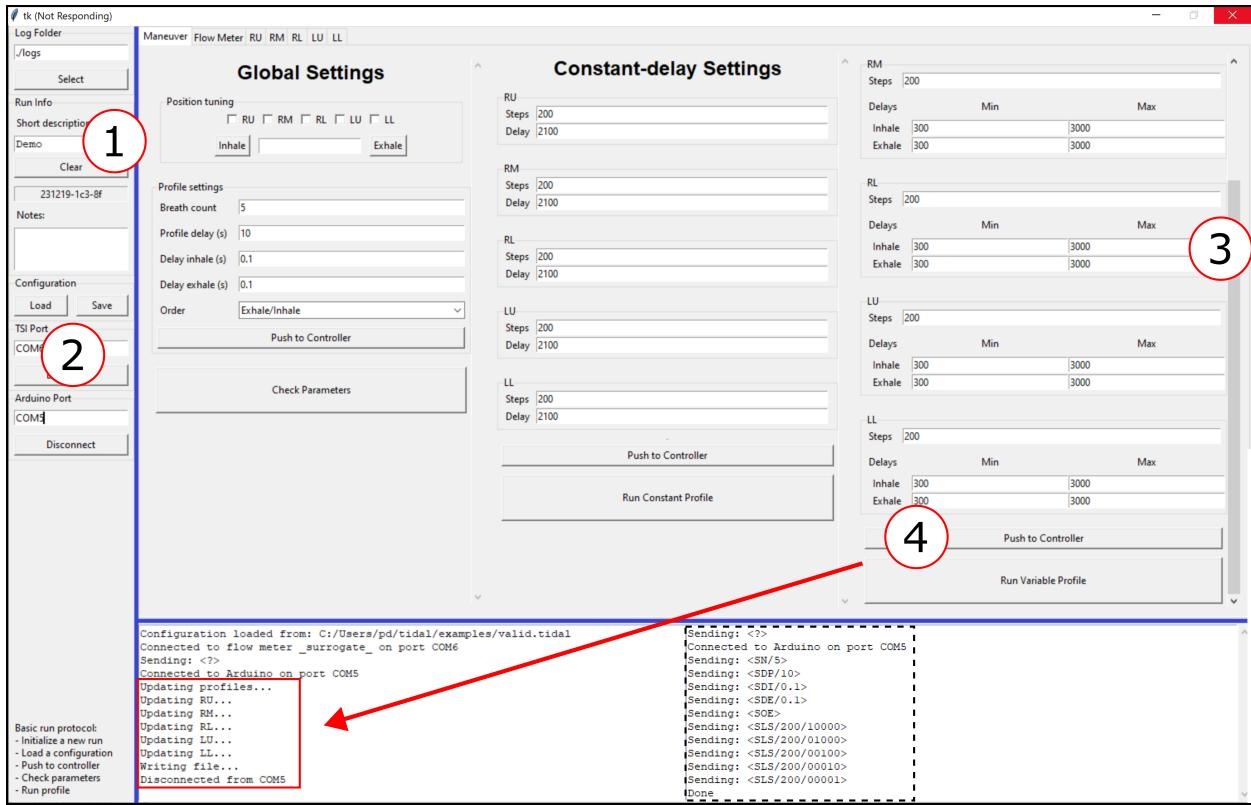

Figure 12: Pushing maneuver settings.
3. Ensure the maneuver and profile parameters are set appropriately, scrolling through the panel as necessary (**Figure 12**).
4. Push the settings to the controller (**Figure 12**).